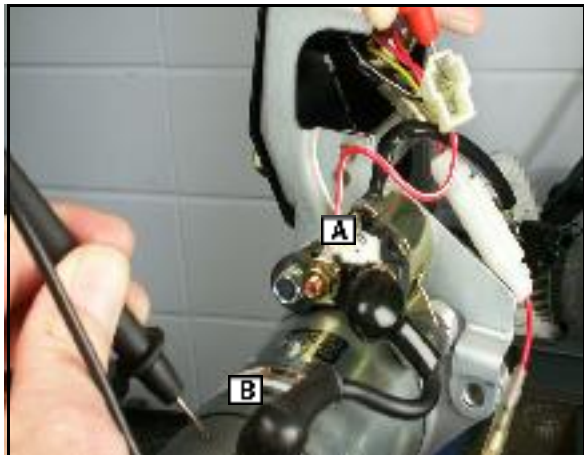

Fig. 58
3. Check for continuity at the yellow terminal (A) of the connector coming from the switch with the key in the **START** position and ground ([B] Fig. 58).